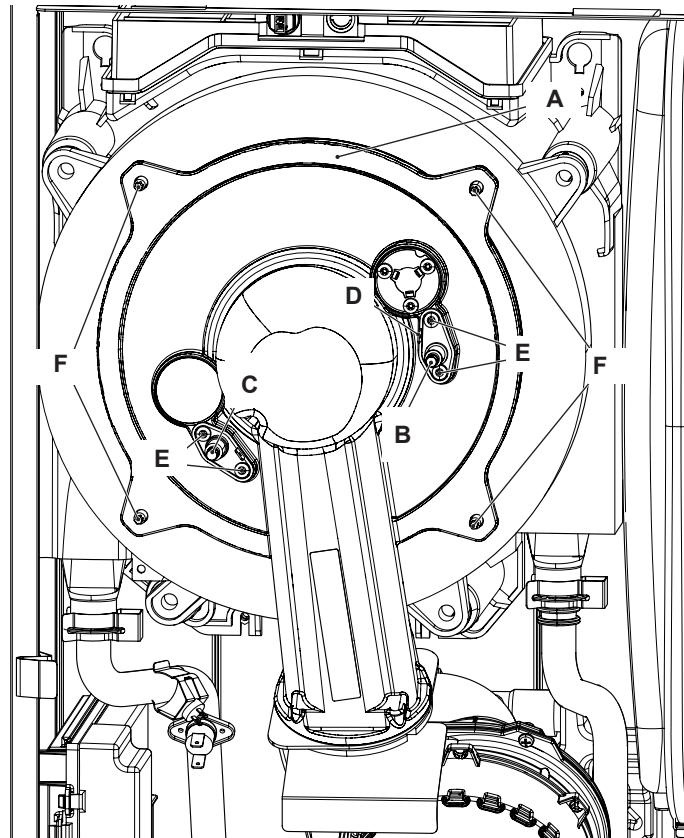

Figure 18.1
- 2 Disconnect the ignition electrodes connector "B" and the earth wire "D" (Figure 18.1) and disconnect the detection
- 3 Unscrew the screws "F" (Figure 18.1) and remove the cover of the combustion chamber.